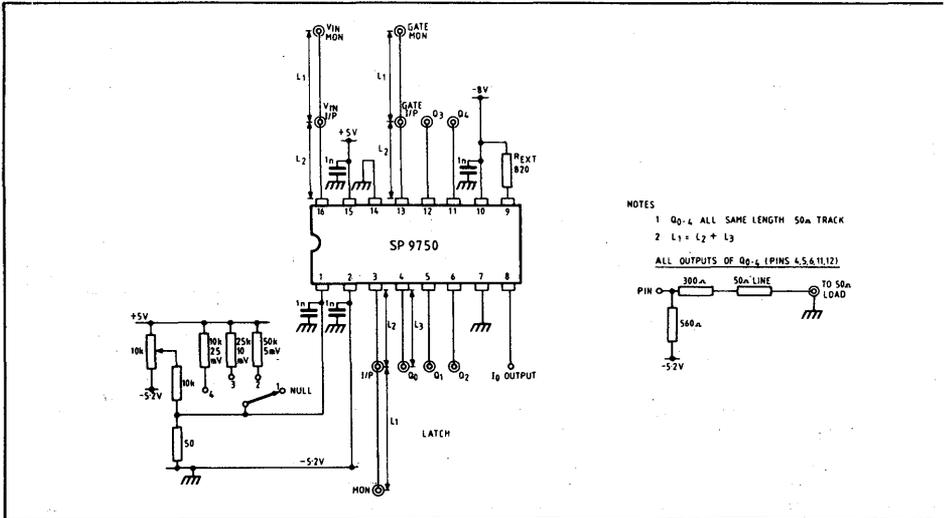
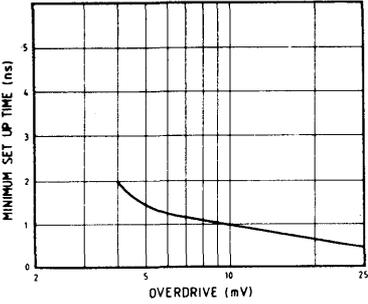

Fig. 4 Test circuit
Fig. 7c T_S v. overdrive set-up time
2. This parameter is defined with $+100$ mV input and -10 mV overdrive, corrected to take account of the comparator offset, i.e. the switching threshold effectively is at OV on the input waveform. The relationship between setup time and overdrive is shown in Fig. 7c. The test circuit diagram, Fig. 4 indicates a method of performing this test.
6. The test arrangement shown in Fig. 4 provides for a simple dynamic test of the SP9750 functions. When the switch is in position 1, the input offset voltage is nulled with the potentiometer, a condition detected by observing the output to be at the mid-point of its range (I_o or Q_o). The latch must be 'low' for this measurement. The offset voltage can be measured with a high impedance instrument. Positions 2, 3 and 4 provide increasing amounts of bias to the reference input corresponding to overdrives of 5mV, 10 mV, and 25 mV. For convenience of operation, the input analogue signal is referred to ground, and the reference input is set above ground, so that an input waveform which is positive going and referred to ground is all that is necessary. It should have an amplitude of (100 mV + overdrive voltage) and should have less than 5% overshoot. The risetime should be about 2 nS. Simple circuit modifications and a negative going signal would provide for inputs of opposite polarity. For accurate timing, the path length L_1 should be equal to $L_2 + L_3$ properly terminated.